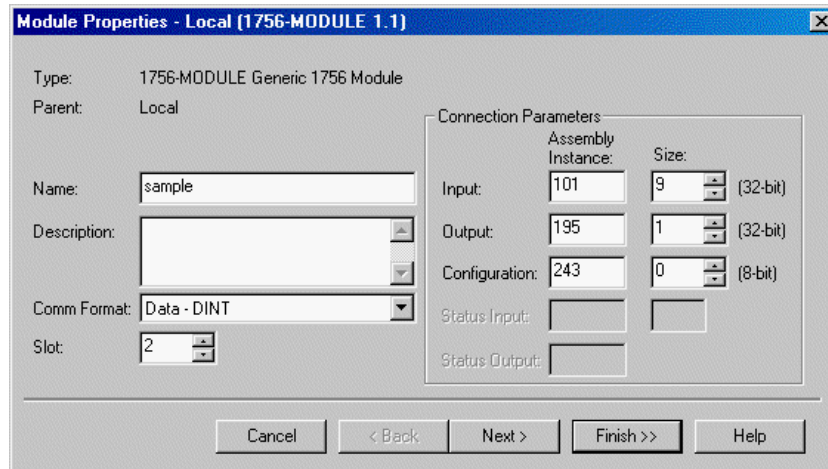

Figure 7.1 Module Properties Window
- 2.3) Click **OK**. The *Module Properties* window will open and it will look similar to figure 7.1 below.